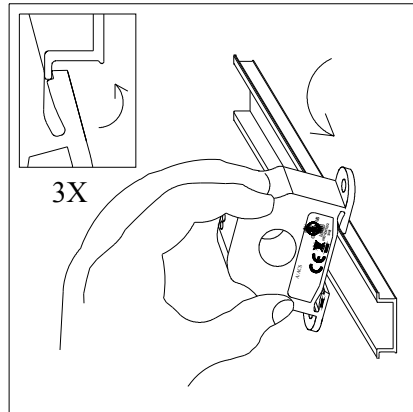

Figure 1: Sensor Placed on Rail
The A/ACS Series Current Switches should be used on **Insulated Conductors Only!** The current switch may be mounted in any position using the (2) #8 x 3/4" Tek screws and the mounting holes in the base or snapped directly on to the 35mm DIN rail (See **Figures 1 & 2 below**). Leave a minimum distance of 1" (3 cm) between the current switch and any other magnetic devices such as contactors and transformers.